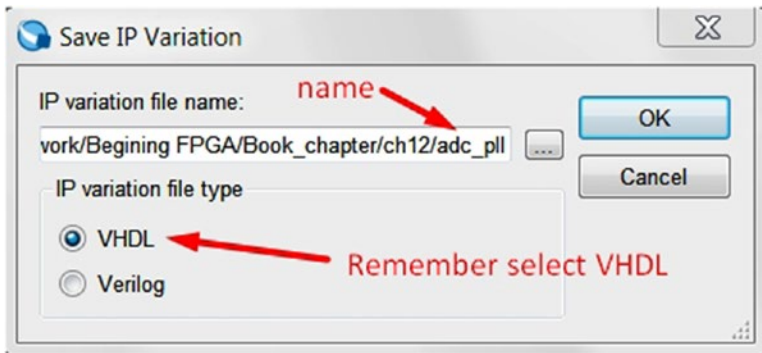

Figure 12-17. Save IP Variation for `adc_pll`
Step 2: A new IP variation window will appear as in Figure 12-17. Enter `adc_pll` at the end of the IP variation file name. Select **VHDL**. Click **OK**.